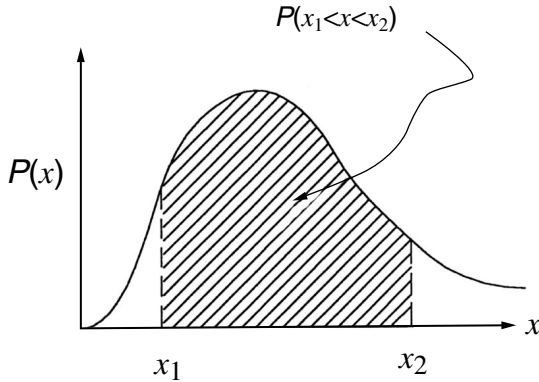

FIGURE P-4 Probability density.
**Probability density** A function  $P(x)$  of a random variable  $x$  with an integral over a given interval that gives the probability that the value of the variable lies within the interval. *See Figure P-4:* the probability that the random variable  $x$  lies between  $x_1$  and  $x_2$  is the area under the curve between  $x = x_1$  and  $x = x_2$ . For a discrete variable, the function that yields the probability that the variable will have a given value is called a **probability distribution**. The distribution function is the integral of the density function over a given interval; it is also defined as the distribution or relative arrangement of probabilities attached to an event (or specific values of a random variable) over the range of its occurrence. With large amounts of data, e.g., in hydrology, it is sometimes convenient to arrange and analyze them in classes. Common theoretical frequency or probability distributions used